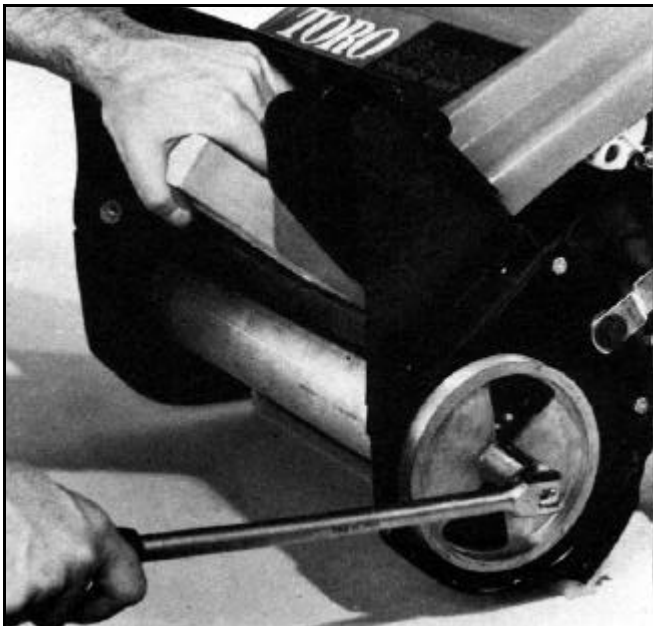

Figure 70
2. Place a block of wood, (2" x 4") as a wedge between the rotor assembly and the housing (Figure 70). With the use of a socket and a large breaker bar turn the rotor pulley clockwise (**Note:** The pulley is a left hand thread.) Remove the rotor pulley.